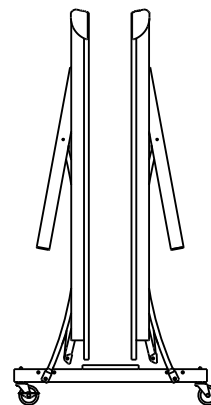

Figure 17
IF TABLE IS NOT ALIGNING CORRECTLY: (see Figure 17)
4. Raise other table half in the same manner as shown in Figure 17.